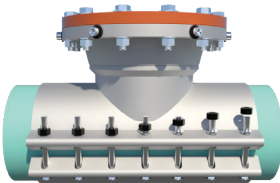
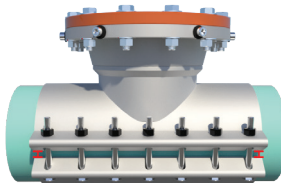

Figure 3
Figure 4
D.7) Install the bottom half of the line stop fitting over the tapered ends of the mat gasket ensuring they are flat and smooth against the pipe surface. Visually inspect gasket to ensure tapered ends are not folded or rolled under themselves. Install stainless steel bolts, washers, and nuts (see Figure 3). Finger tighten, ensuring gaps between top half and bottom half of the line stop fitting are the same front-to-back and side-to-side — within 1/8" (see Figure 4).